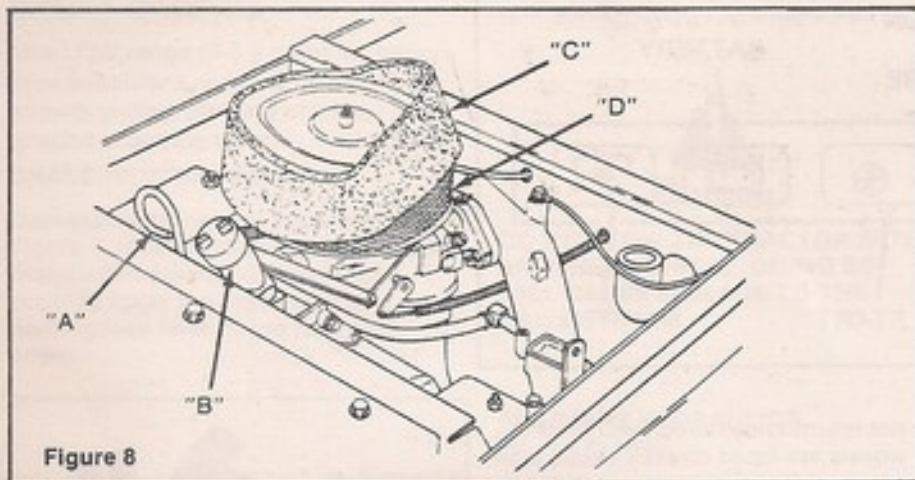

Figure 8
The engine oil level must be maintained in the "safe" operating range at all times. Oil level must be between the "ADD" and "FULL" marks on the dipstick (A), Figure 8. Clean area around dipstick so dirt does not fall into crankcase when dipstick is removed. Check daily and add oil as necessary to maintain proper level -DO NOT OVERFILL. Oil level must not exceed the "FULL" mark.
3. Remove Precleaner (C), Figure 8 and Paper element (D).